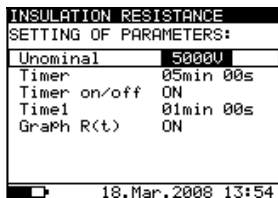

Fig. 11 Set-up menu in Insulation Resistance measurement
- Press the SELECT key, the set-up menu will appear on the display, see the **Fig.11**.